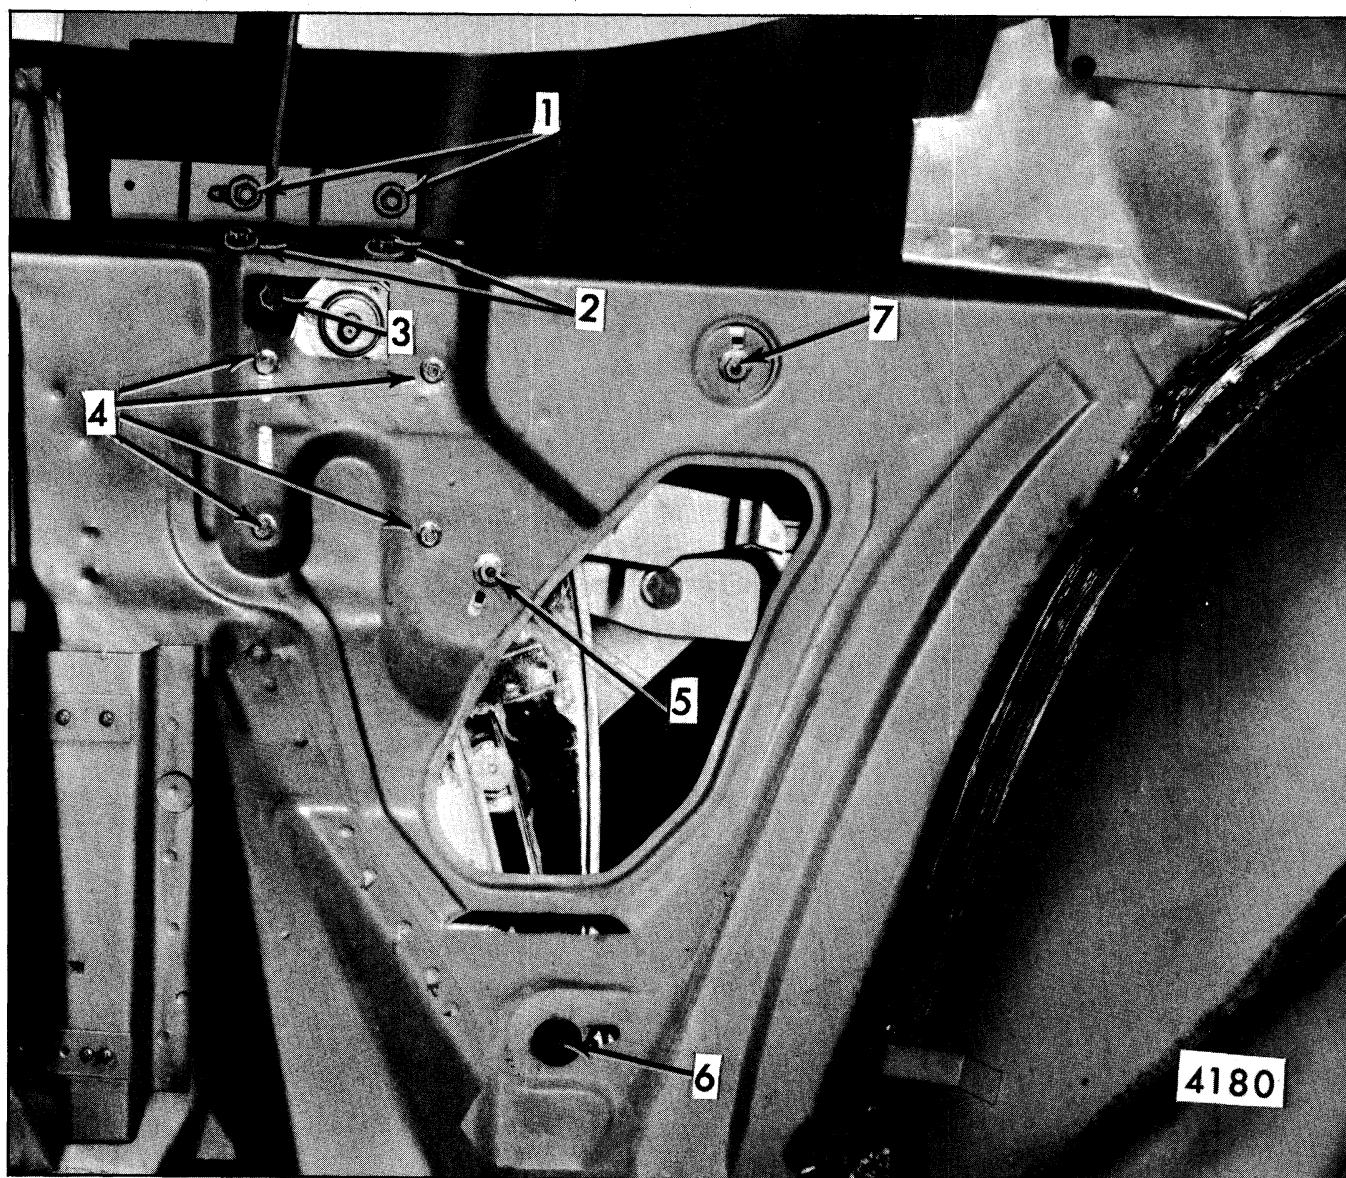

Fig. 6-43-Rear Quarter Hardware - "E-67" Styles
3. Remove rear up-travel stop bolt ("7", Fig. 6-43) and remove stop from inner panel.
4. Remove lower down-travel stop bolt ("5", Fig. 6-43) and remove stop from inner panel.
5. Remove attaching bolts from upper support assembly to inner panel ("2", Fig. 6-43).
6. Remove attaching bolts from lower guide support ("6", Fig. 6-43).
3. Remove rear up-stop and down-travel stop ("5" and "7", Fig. 6-43).